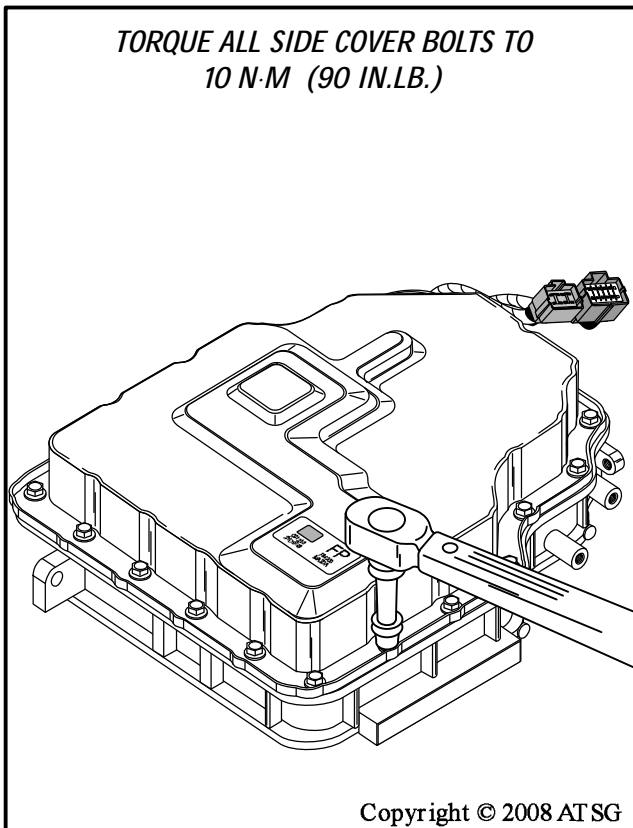

Figure 237
55. Torque all twenty of the side cover bolts to 10 N·m (90 in.lb.), as shown in Figure 237.